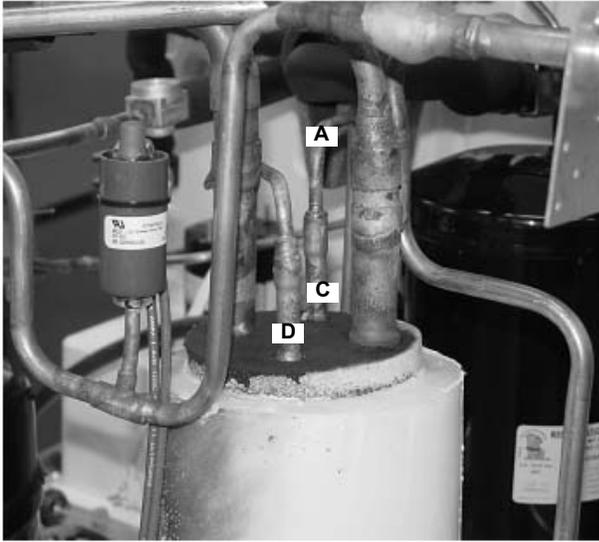
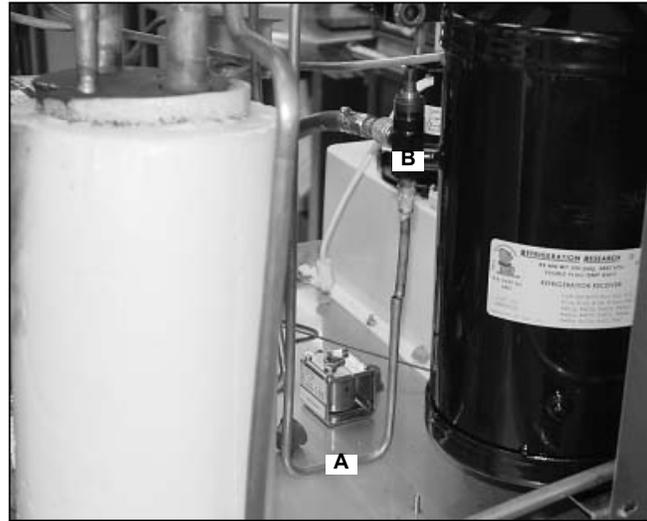
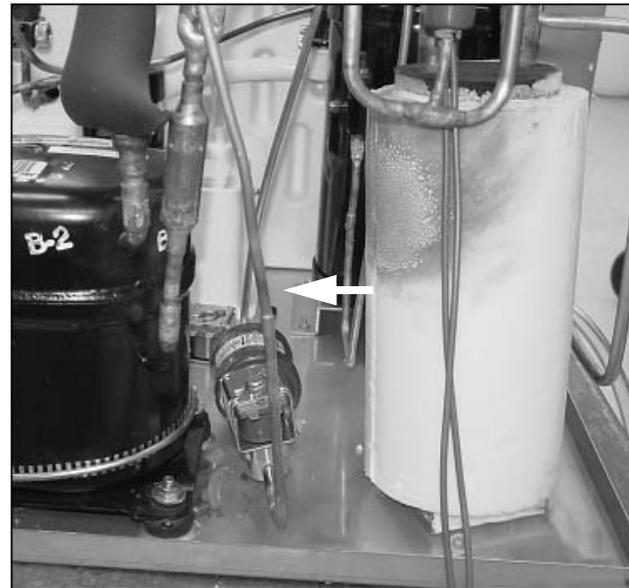

Figure 31.
Figure 32.
Figure 33.
30. Place the Receiver to Accumulator Liquid Line (A) in the unit. This line is a single copper tube. Place in receiver outlet (B) and liquid inlet (C) on the accumulator (Figure 31 and Figure 32). Use the 3/8 F X 1/4 S bushing at the accumulator.
31. Place the Liquid Line with Filter Drier (D) in the unit. This assembly has the filter drier and the liquid line valve. Connect the drier side of the assembly to the liquid outlet (D) on the accumulator (Figure 31). Connect the valve side to the open liquid line on the Heat Exchange Suction Line (Figure 33).